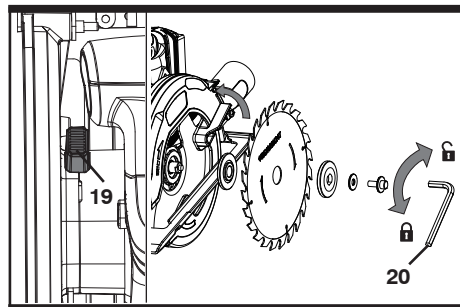

Fig.B1
19.	Spindle lock button (See fig. B1)
20.	Hex key (See fig. B1)